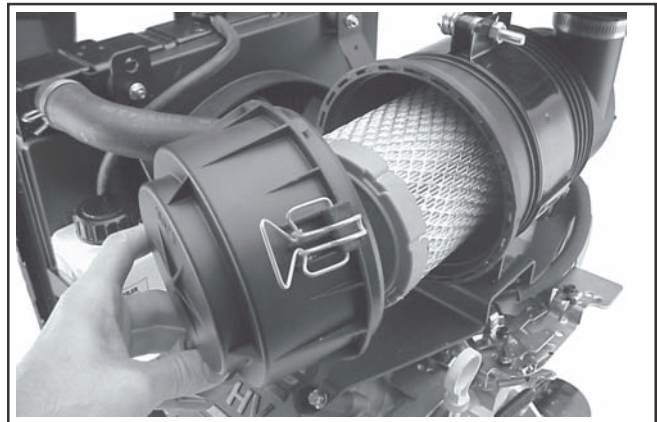

Figure 15. Removing End Cap.
1. Unhook the two retaining clips and remove the end cap from the air cleaner housing. See Figure 15.